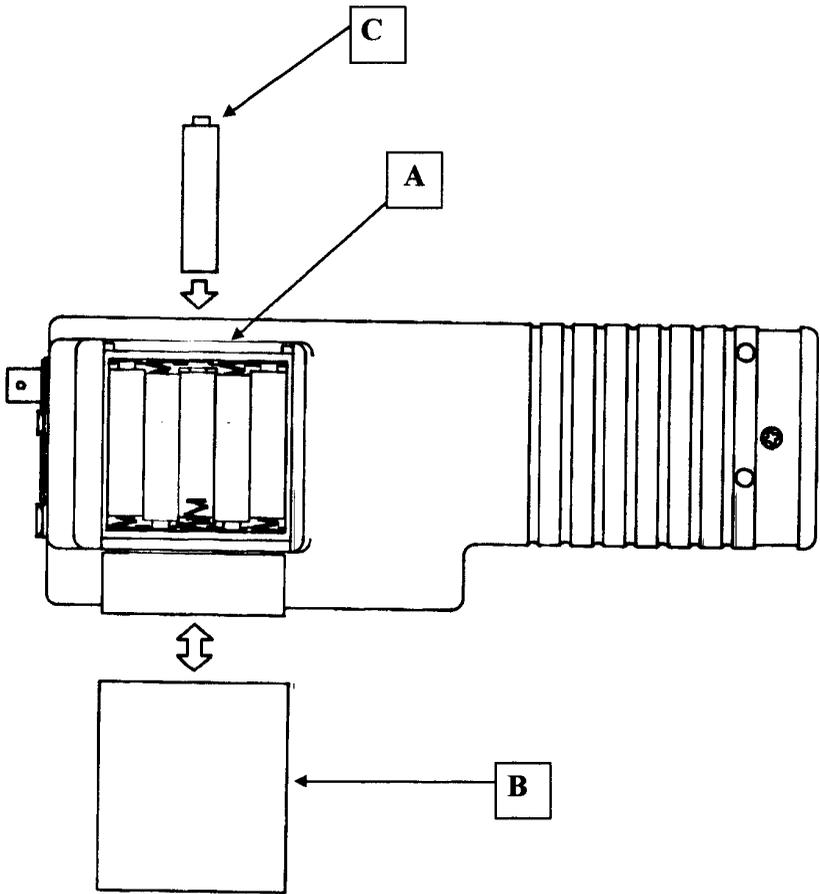

FIGURE 1. REAR VIEW (BATTERY COMPARTMENT)
2. Position the meter so that the left side of the meter is facing up. Refer to **Figure 1**. With a coin, insert it in the closure slot on the side labeled **A**. With the coin tilted, thrust it upward to open the battery compartment and lift the closure up.